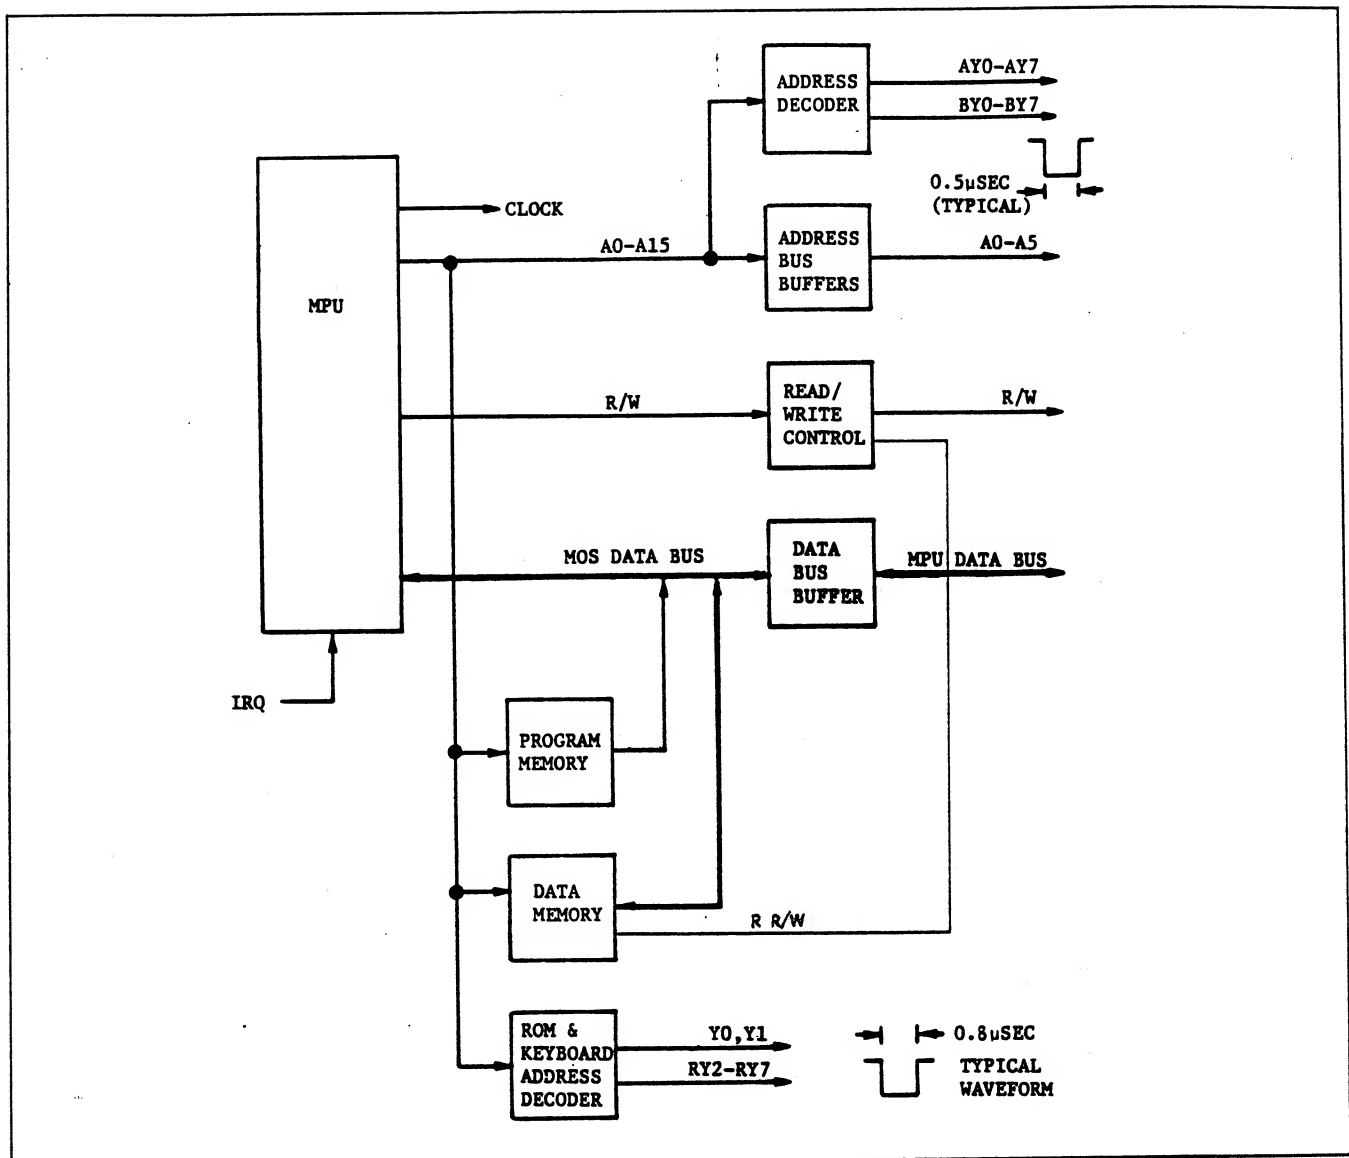

Figure 5.26 - Computer Board
5.4.3.2.1 The Computer Board (Figure 5.26) contains program storage and processing circuitry. The circuitry consists of a microprocessor, random access memory (RAM), read only memory (ROM), address decoders and read/write control logic.